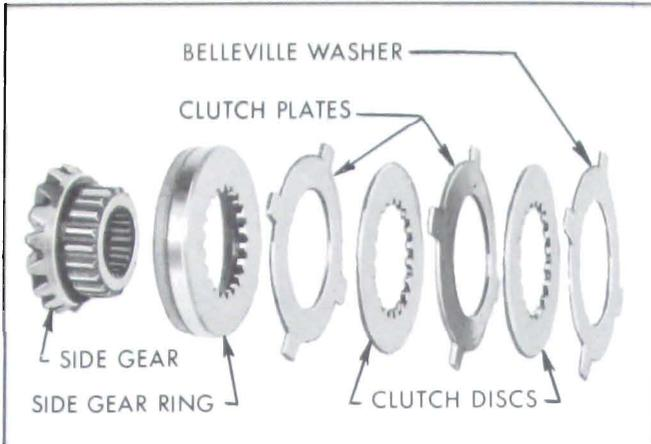

Figure 6-35—Clutch Pack
Each clutch pack consists of three clutch plates which are keyed to the differential case by external lugs, and two clutch discs which are splined internally to the side gear ring. The gear ring is splined to the side gear which is in turn splined to the axle shaft. Whenever a load is applied to the differential, each side gear ring is forced outward, squeezing its clutch pack against the differential case. See Figure 6-35.
4. Oil clutch plates and discs thoroughly with Special Positive Traction Lubricant and install clutch packs. If inspection showed plates and discs to be in good condition, install original side gear ring and clutch pack on each side gear according to Figure 6-35. If any plates or discs were defective, install two new clutch packs.